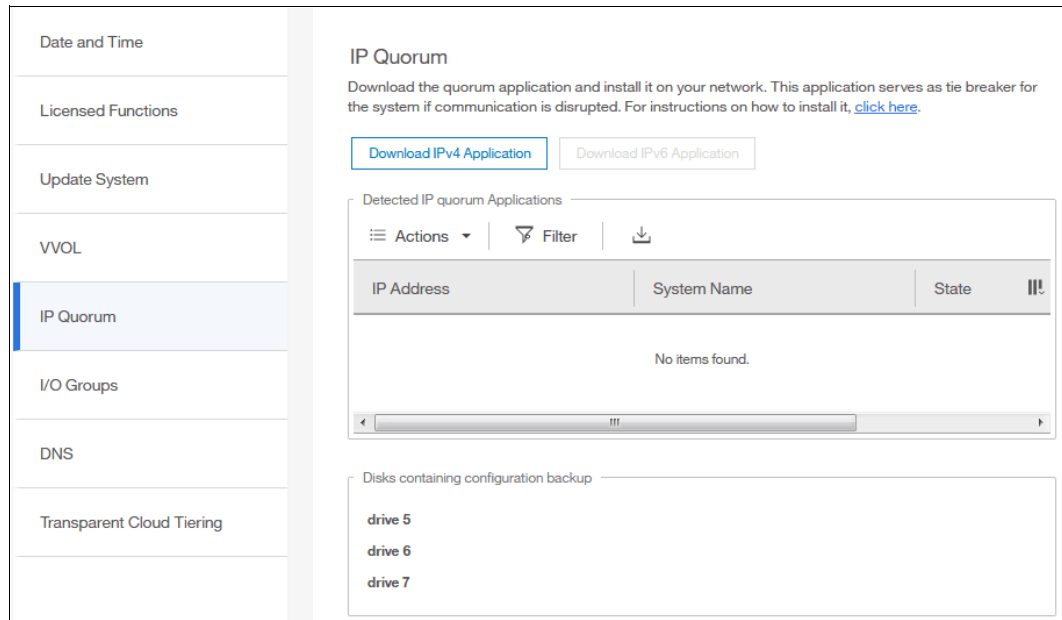

Figure 7-61 IP Quorum
1. If your IBM FlashSystem 9100 is configured with IP address version 4, click **Download IPv4 Application**, or select **Download IPv6 Application** for systems running with IP address version 6. In our example, IPv4 is the option as shown in Figure 7-61.